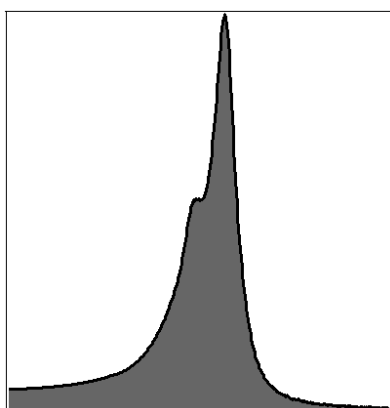

Fig. 4. 'Raw Data' mode.
(1) 'Raw Data' mode: the area of the core level peaks will be used as the data point intensity of an XPD pattern without fitting or background subtraction. For example, the gray color depicts the area of a core level peak in Fig. 4.